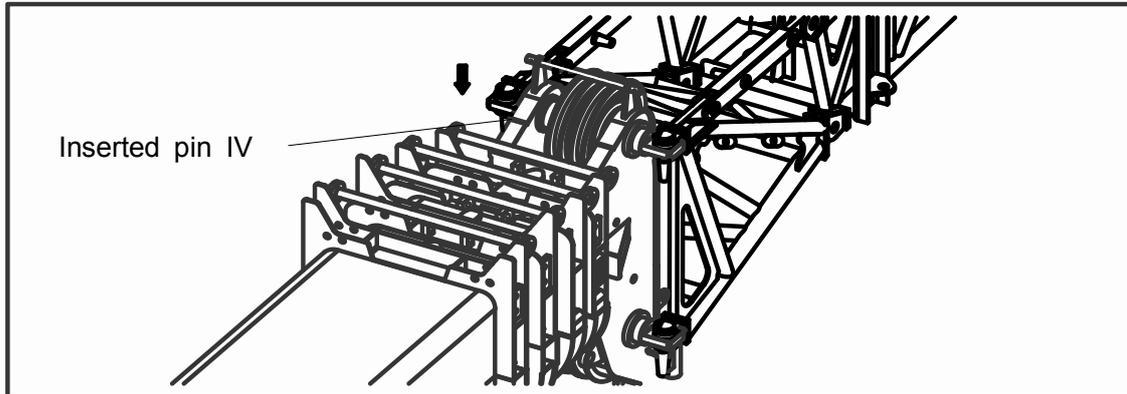

Fig.05-08
- i) Unfold the jib till connecting fork aligns with their holes on the left side of telescopic boom section 4 and pin the inserted pin IV and spring-loaded pins. See Fig.05-08;